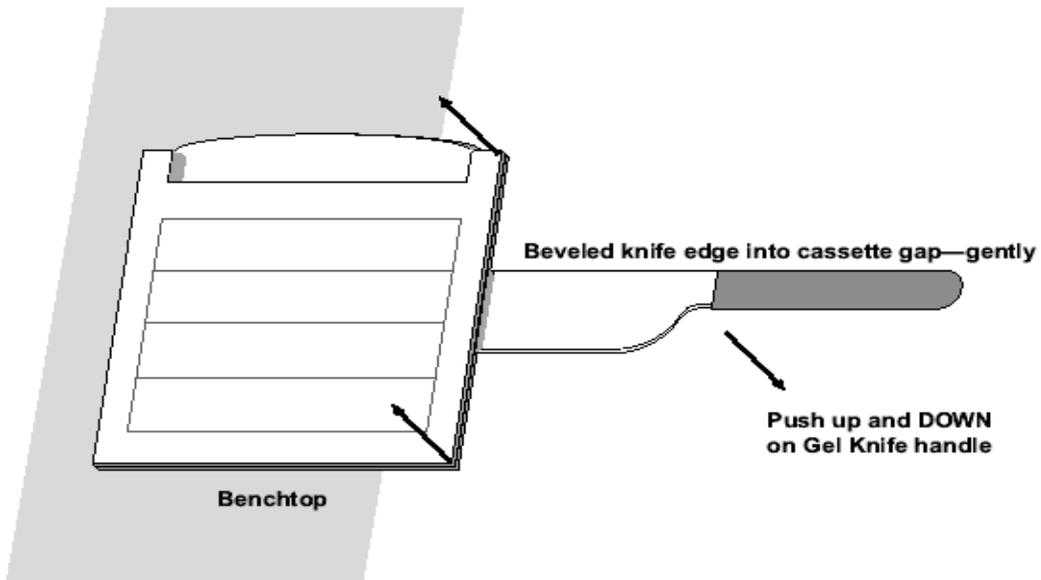

Figure 3: Opening a Gel Cassette
- 8.3.6. Insert the gel knife between the two plates. See **Figure 3**. (HINT: It may be easier to start with the corner.)
- 9.3. Figure 3: Opening a Gel Cassette